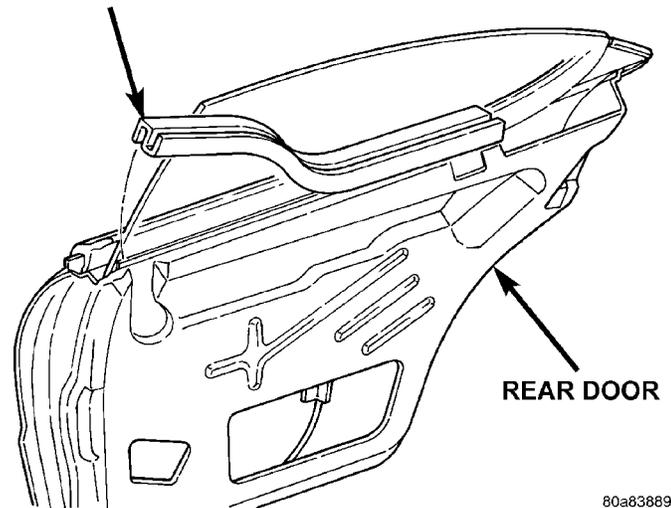

Fig. 46 Rear Door Inner Belt Weatherstrip
- (1) Remove door trim panel.
- (2) Pull weatherstrip from top of door panel (Fig. 46).
- (3) Separate weatherstrip from door.